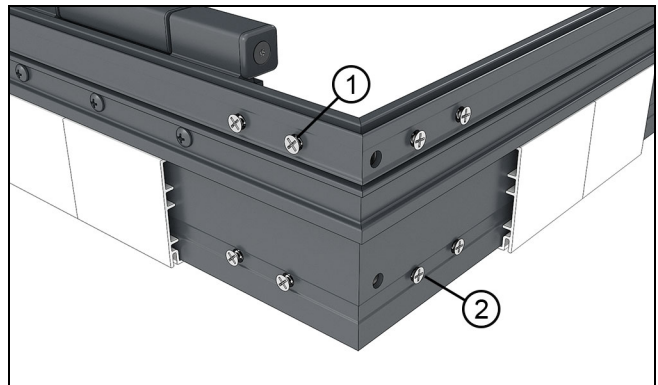

Figure 15
4. Align the head jamb to jamb and make adjustments until both miters are tight. Fasten with four #8 x 3/8" flat head screws to the exterior side and four #8 x 3/8" flat head screws to the interior side. See Figure 15.